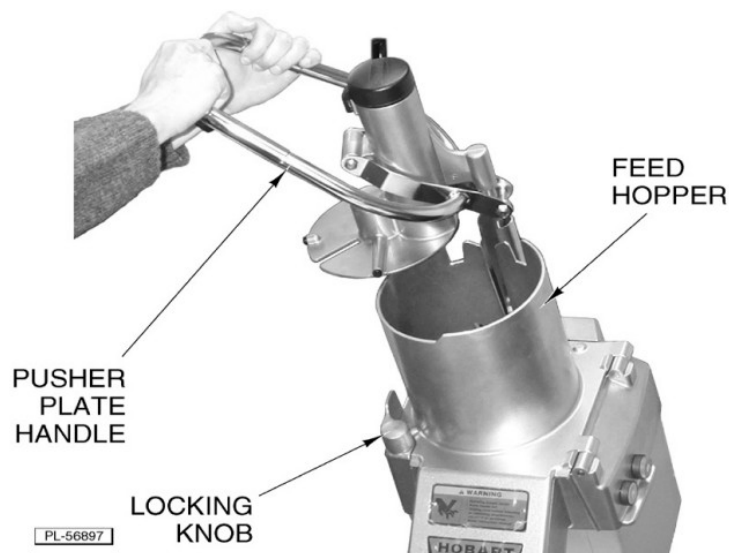

Fig. 3
1. Lift the pusher plate handle and move it to the left, away from the feed hopper (Fig. 3).
2. Turn the locking knob counterclockwise to unlock the feed hopper (Fig. 3).
3. Raise the feed hopper (Fig. 3).
8. Move the feed hopper back into position (Fig. 3).